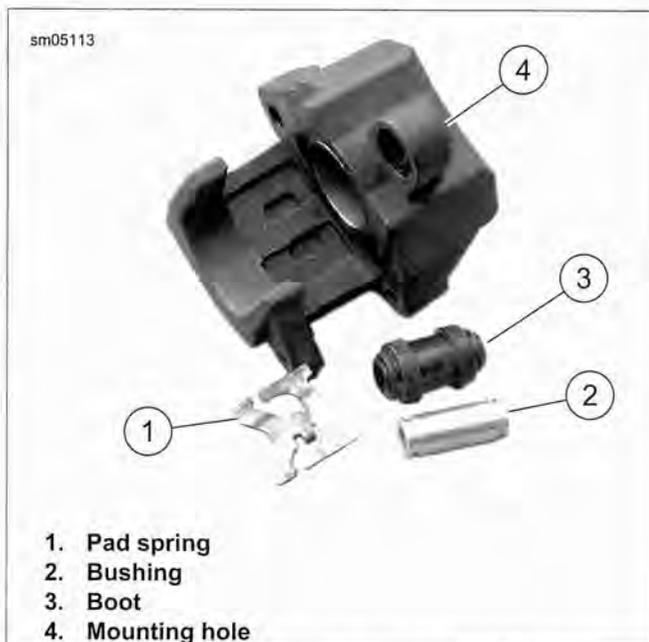
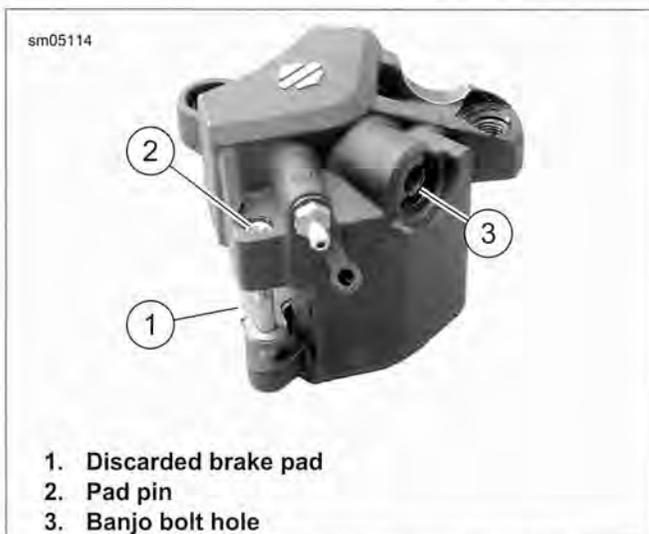

Figure 2-104. Spring, Bushing and Boot
Figure 2-105. Removing Piston: XR 1200X
2. See Figure 2-104. Remove pad spring (1).
3. Remove bushing (2) from boot (3). Remove boot from mounting hole (4). Do not remove bleeder valve at this time.
4. See Figure 2-105. Install a discarded brake pad (1) in the caliper with the backing plate facing the piston. Position